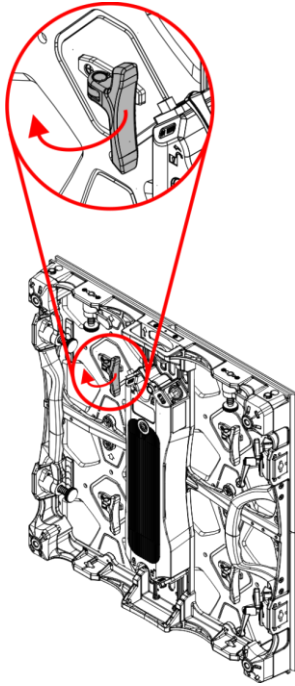

Fig. 63
- 01) Turn the **service handle (15)** clockwise, as shown in Fig. 63.